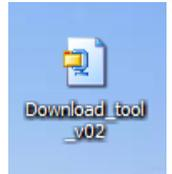

Figure 1
3. Unzip (decompress) the Download tool supplied with these instructions (Figure 1.) Create a new folder on your desktop named "Download tool v02." To unzip the Download Tool left mouse click on the Download tool icon and select the "extract to a folder and pick the new folder you just created. Depending on your